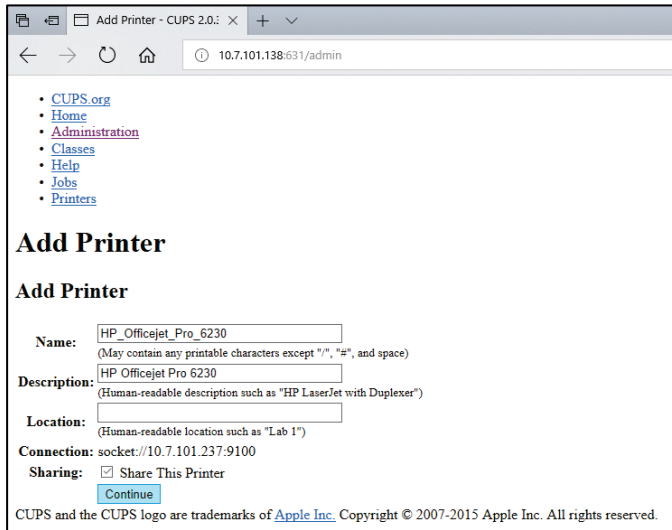

Figure 76. Add printer screen.
5. Select **Share this printer** and press **Continue** (Figure 76, next page).